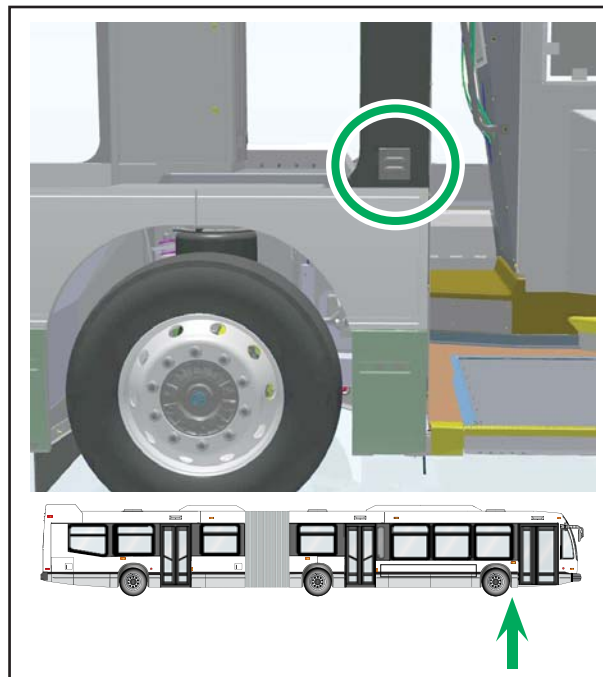

Figure 1 - Exterior Speaker Location
1.1. Locate the exterior speaker. See Figure 1.